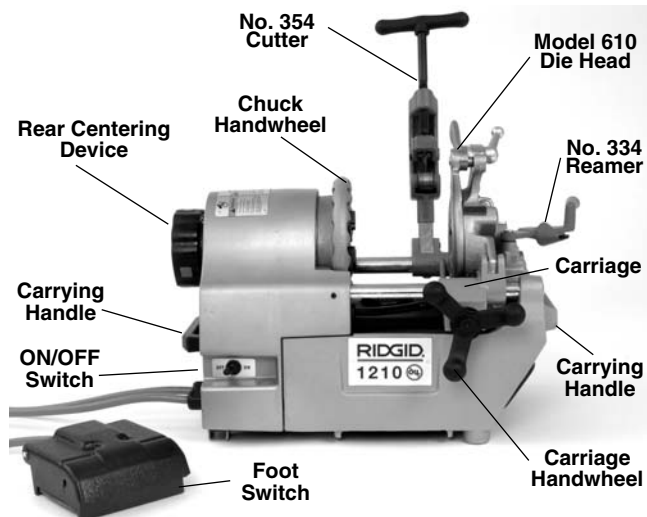

Figure 1A – 1210 Threading Machine
4. Make sure that the foot switch (See Figure 1A) is attached to the machine and that it and the cord are in good condition. Press the foot switch treadle and confirm that it cycles smoothly and does not stick.